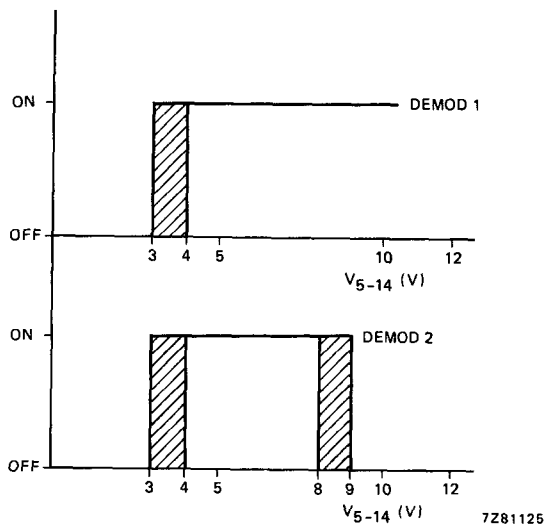

Fig. 2 Mute function.
AF output level (Fig. 2, note 5)
5. In the MUTE state the a.f. output level attenuation is more than 60 dB. The MUTE function is only guaranteed for an r.m.s. value of the input voltage lower than 60 mV. See also Fig. 2.